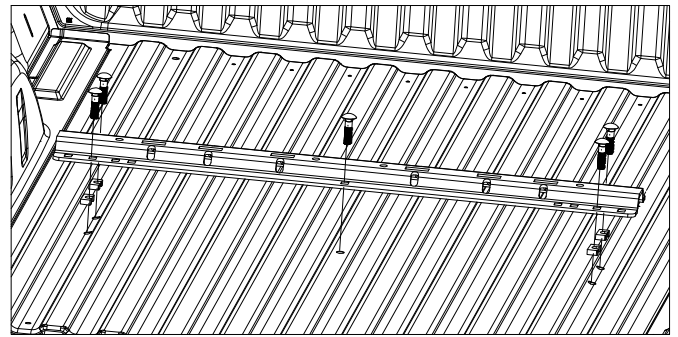

**Figure C8:** View looking at passenger side of frame.
- 5. Install the passenger side plate.** Repeat this process for the passenger side plate. The passenger side front U-bolt will need to be positioned under the wiring harness that runs over the top of the frame, see Figure C8.